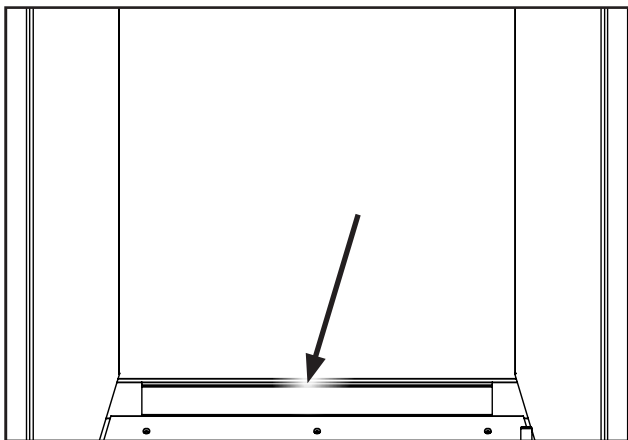

Figure 59. Rear Panel Ledge.
5. Install the rear porcelain panel first by sitting it on the ledge at the rear of the firebox (see figure 59), then follow with the left and right panels.